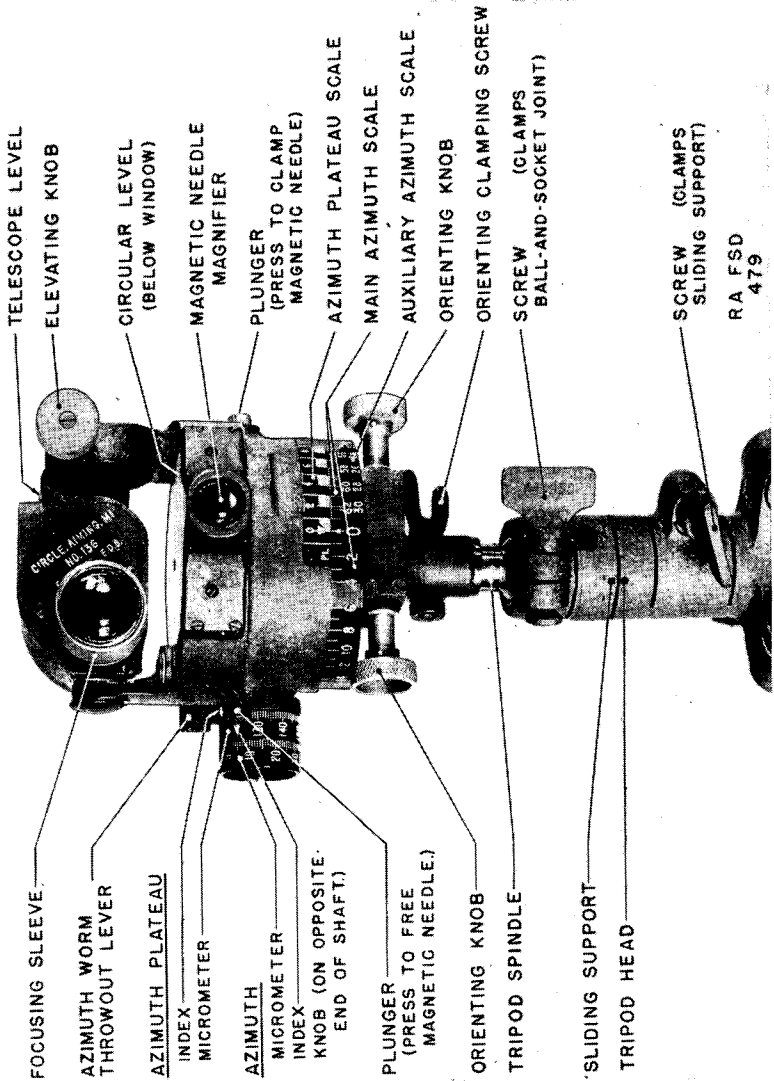

FIGURE 51.—Aiming circle, M1.
d. M1.—(1) *Description.*—(a) This instrument (fig. 51) includes a four-power telescope with a laterally and vertically graduated reticle, two levels, a declinator, elevating, orienting, and azimuth mechanisms, and azimuth scales and micrometers indicating azimuths both in mils and in terms of scale indications on other instruments commonly used therewith. No scale other than that on reticle is provided for vertical angles.